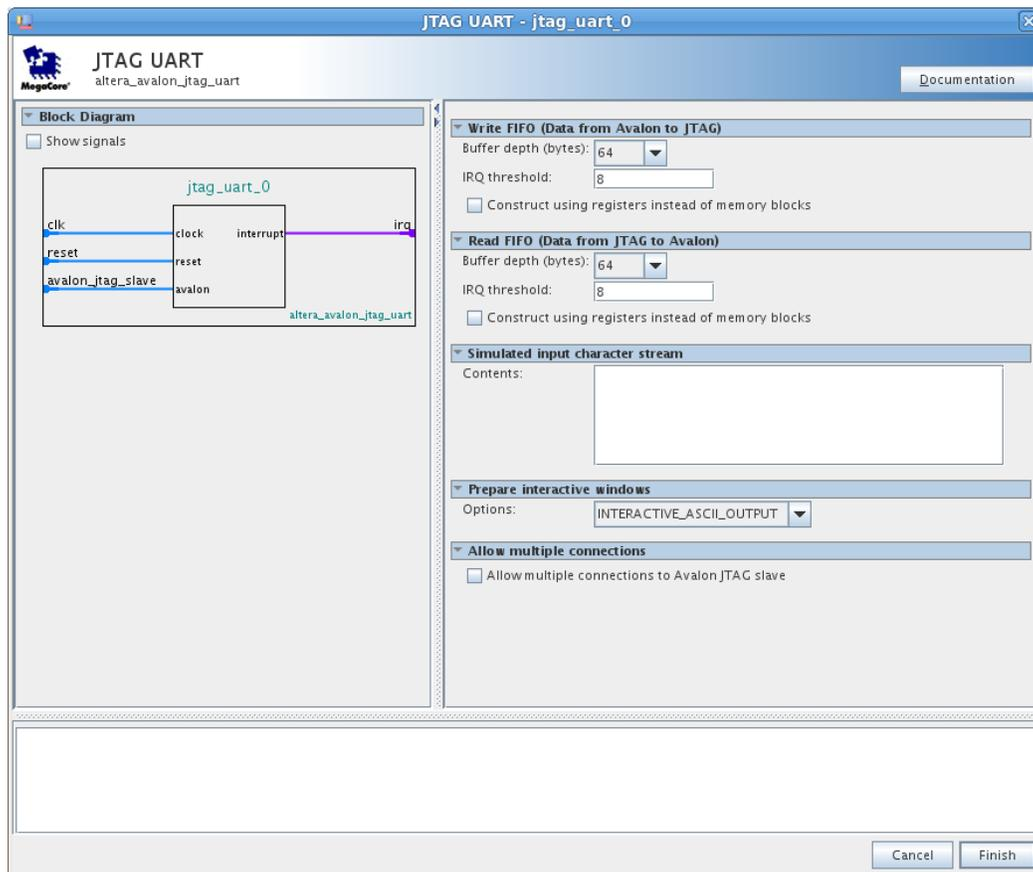

Figure 13. Defining the JTAG UART interface.
- Select in the Library, Interface Protocols > Serial > JTAG UART and click Add to reach the JTAG UART Configuration Wizard in Figure 13